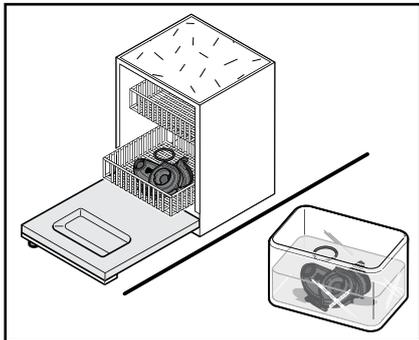

Fig. 39
7. Clean the mixing bowl and the sealing ring (fig.39):